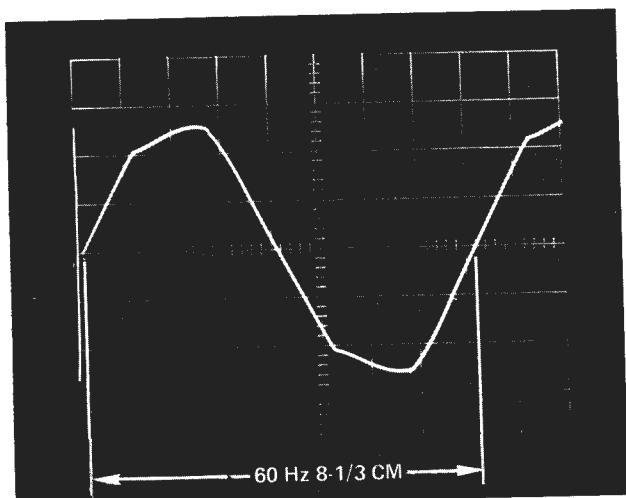

Fig. 39. Waveform for adjusting Sweep Cal. 2.
marking on the graticule to the extreme right marking. (If your scope is connected to a 50 Hz power line, you should adjust for two and a half complete cycles.) See Fig. 38. Turn the TIME/CM switch one position clockwise to the 2 milliseconds position. Refer to Fig. 39 and adjust the center sweep calibration potentiometer (2) so that one cycle of the